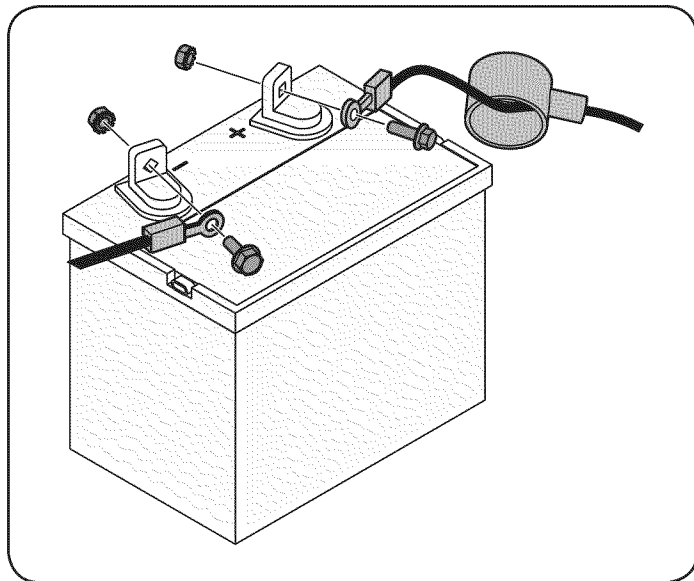

Figure 5
1. Remove the plastic cover, if present, from the positive battery terminal and attach the red cable to the positive battery terminal (+) with the bolt and hex nut. See Figure 5.